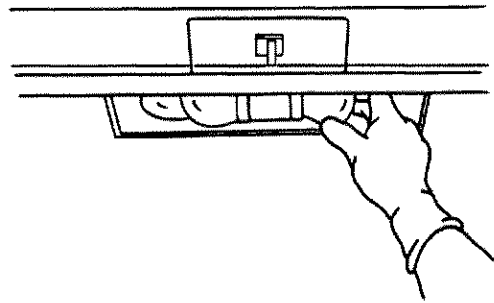

Figure 40
- Wear protective gloves to remove defective bulb(s) and replace with functioning bulb(s). See Figure 40.